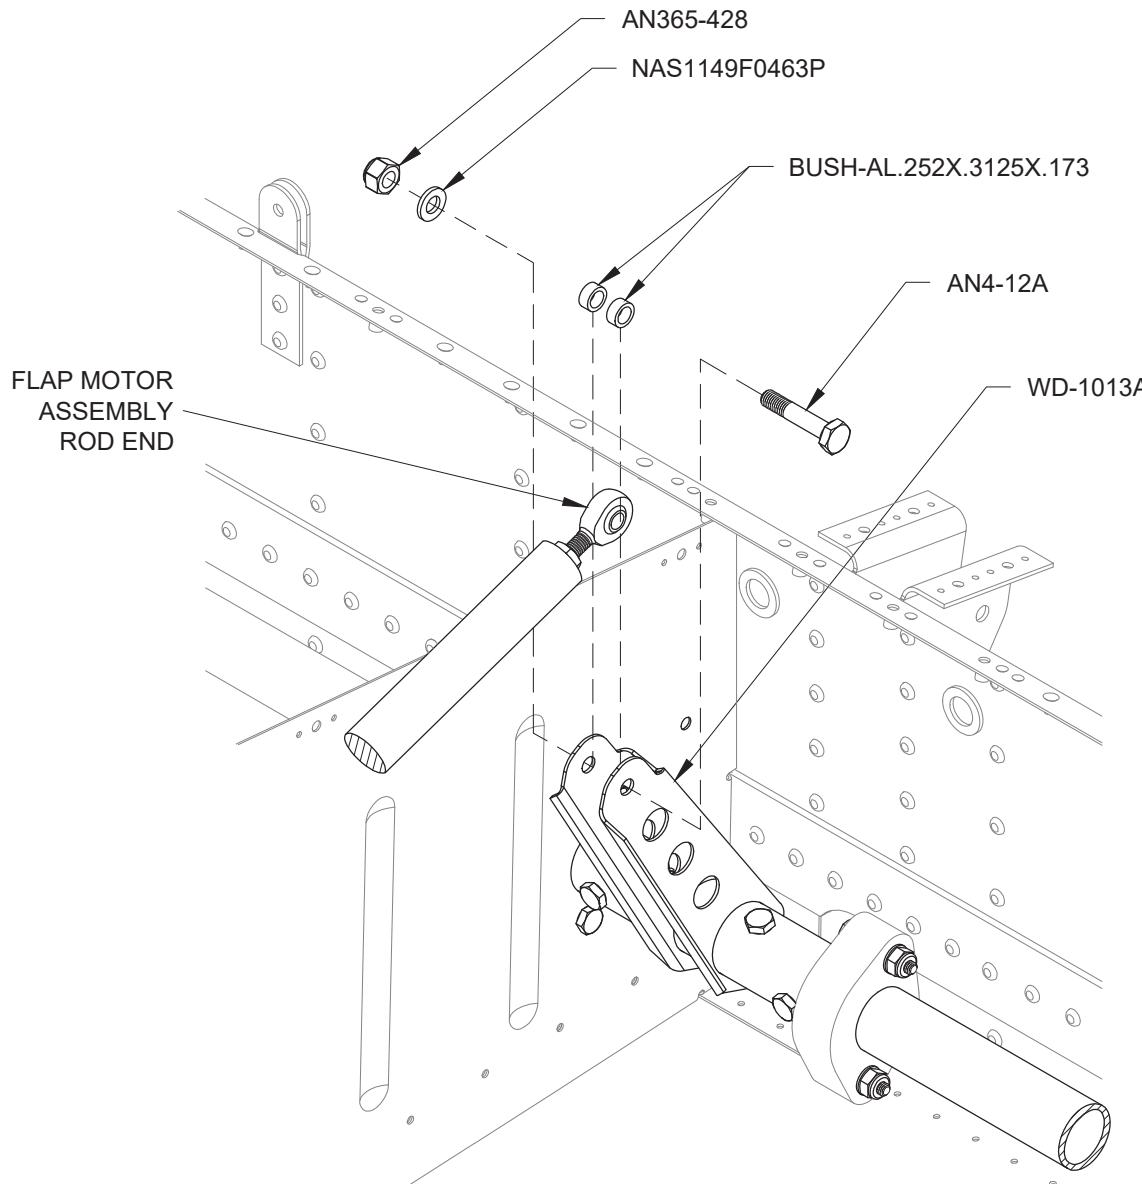

FIGURE 1:
Step 1: Bolt the rod end bearing into the WD-1013A Flap Crank using the hardware shown in Figure 1.